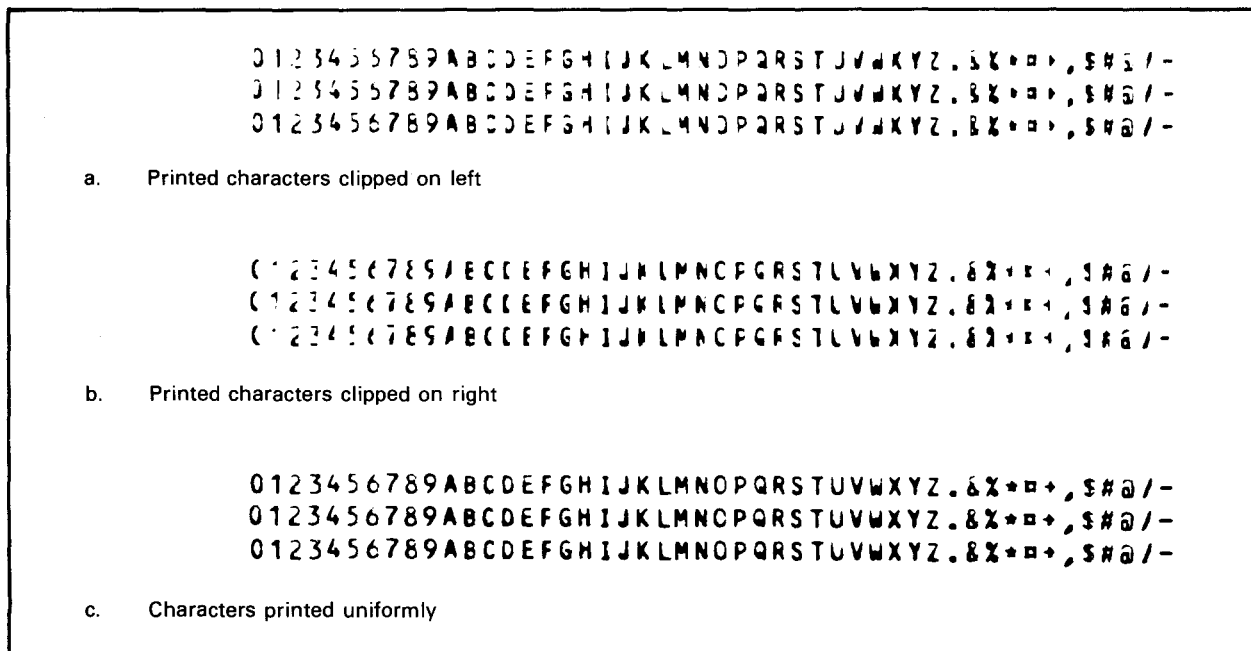

Figure 5—45. Print Phasing Adjustment Examples
The print phasing control (Figure 5—35), designated **HORIZONTAL CHARACTER PHASING** on the printer, permits the operator to eliminate clipping of printed characters. Clipping is indicated when either side of the printed character is faded or missing. Evidence of incorrect setting of the print phasing control is first indicated on the last part of a multipart form.
The **HORIZONTAL CHARACTER PHASING** control usually is set to position 0 on the dial. If clipping occurs, however, print phasing can be adjusted during printing by turning the control in either direction until the characters are printed uniformly. Figure 5—45 illustrates examples of clipping improper adjustment of the print phasing control. The example showing uniformly printed characters indicates a properly adjusted phasing control.
1. Open the print carriage by lifting the print carriage latch lever (Figure 5—40a).
2. Set the print band **SPEED SELECT** switch (Figure 5—34) to the **LOW** position.